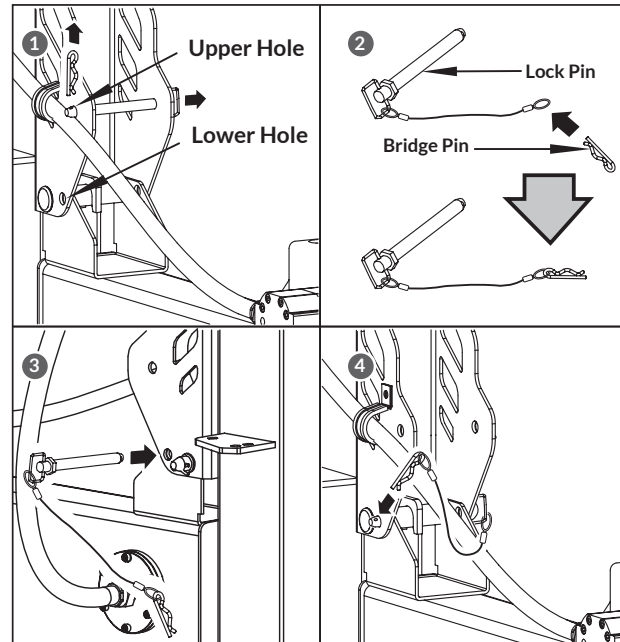

Figure 7b
3. Move the bridge pin and lock pin from the upper hole to the lower hole. Make sure the bridge pin is connected to the wire rope first and then insert the lock pin. (See Figure 7b)